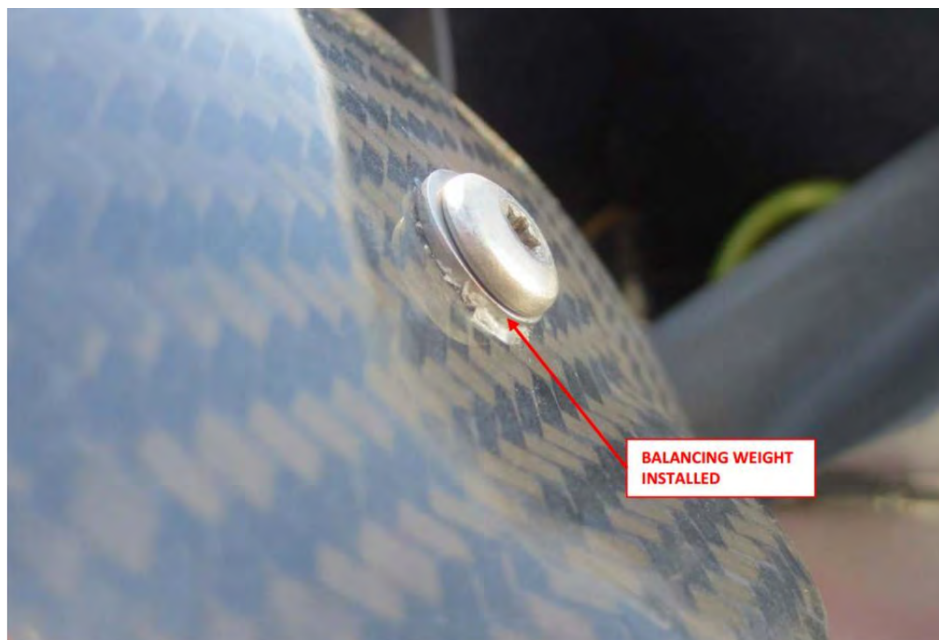

FIGURE 17-64
13. Install a combination of washers listed in this task to achieve the suggested weight calculated by the system. No more than three washers should be added to any one location. Apply LUBRICANT to spinner dome screws and torque to 26 in-lbs with a T20 Torx driver. (See Figure 17-64.)